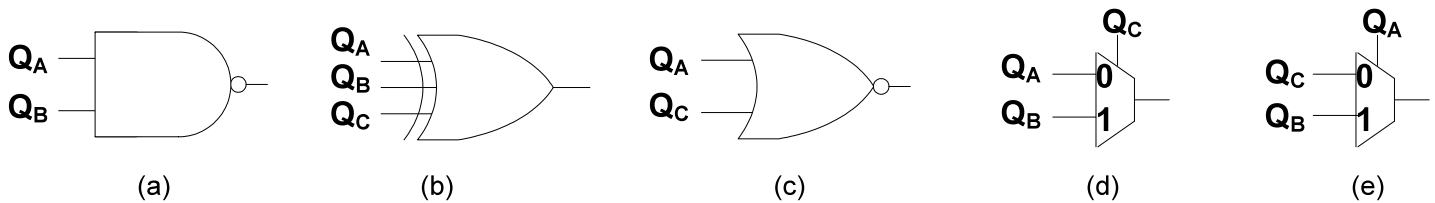

Figure 12 - Circuit implementations for questions 16, 17 and 18.
1. Figure 12(a)
2. Figure 12(b)
3. Figure 12(c)
4. Figure 12(d)
5. Figure 12(e)